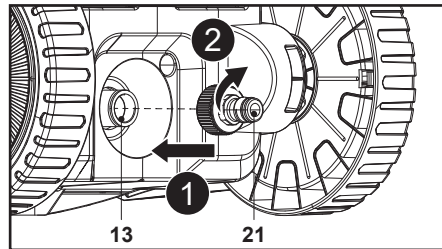

Fig. 7
Align and screw the water inlet adaptor (21) onto the water inlet connector (13) at the back of machine (Fig. 7, steps 1, 2).